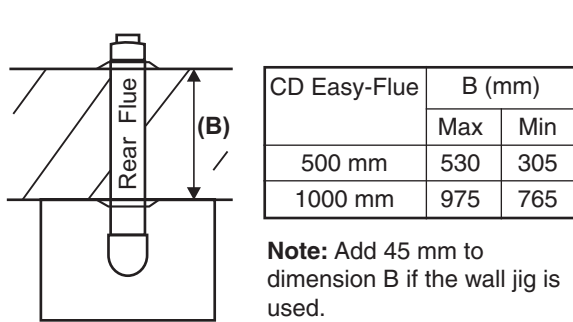

Fig. 5.7
5.7 FIT THE FLUE - Figs. 5.7 and 5.8
- When the flue length required is more than the maximum stated in Section 4.6, paragraph 1, refer to the table below and Figs 5.7 and 5.8.